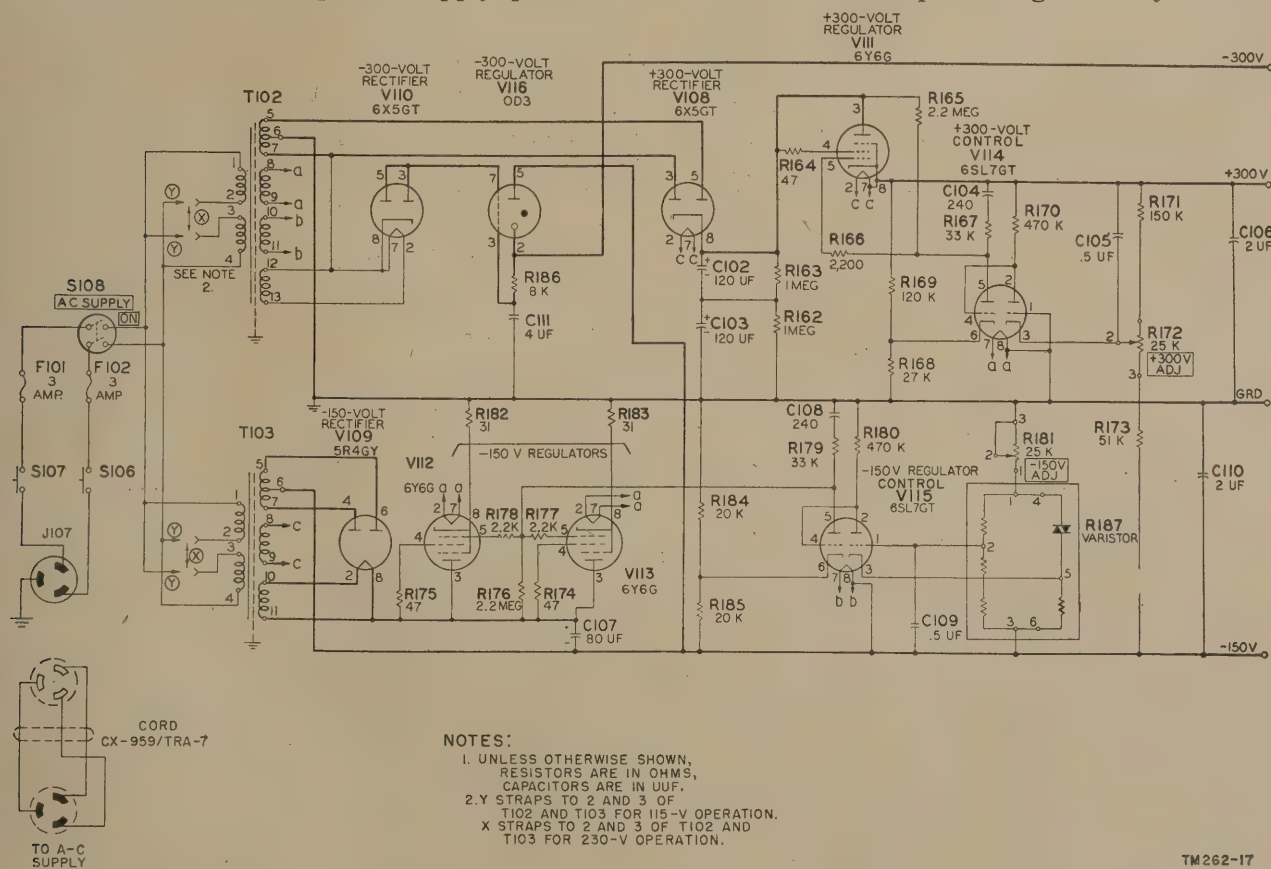

Figure 23. Control Unit C-292A/TRA-7, simplified schematic diagram of power supply.
### 36. Power Supply (figs. 23 and 24)
f. The +300-volt supply (fig. 23) operates as follows:
- (1) The +300-volt supply uses V108 (a type 6X5GT tube) as a full-wave